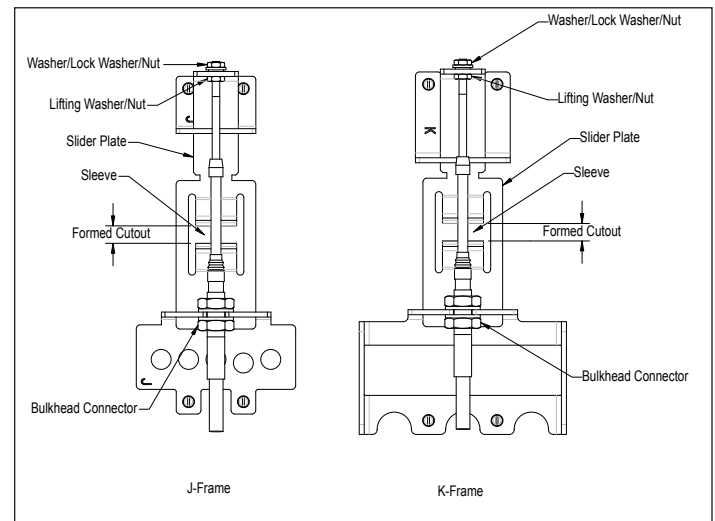

Figure 2. J- and K-Frame Actuator Mechanisms.
The High Performance Flex Shaft handle mechanism provides a means of externally operating the circuit breaker and can be applied to enclosures of varying heights and depths. The handle can be used with NEMA 1, 3R, 12, and 4/4X enclosure applications, depending on the accessory components selected. An operating handle, flexible shaft, and mechanism are required for standard application. Eight lengths of shafts are available for use with the wide range of depths of various enclosures (3 through 10 ft [0.91 through 3.05 m]). When selecting the length of the Flexible Shaft, ensure minimum bending radius of 4 in. (101.60 mm) is maintained to operate properly. The standard method of shipment includes the mechanism preset at the factory. If minor field adjustments are required, see Figure 2. For this publication, the term circuit breaker shall also include the molded case switch and Series C motor circuit protector (HMCP).
In the event a customer must disassemble the pre-assembled Flex Shaft handle mechanism, the procedure listed below must be followed before continuing with the "Installation" instructions (see Figure 2).
8. Check the operation of mechanism for "ON", "OFF", and "Reset". Check the reset position of the actuator mechanism, that the lifting nut and sleeve of shaft do not come in contact with each other (see Figure 2). If they do, move the bulkhead connectors accordingly. If the mechanism functions incorrectly, repeat the procedure or go to Adjustment Checklist.
For J- and K-Flexible Shaft Assembly, loosen the lifting washer/nut while tightening the washer/lock washer/nut. Two or three turns should be sufficient (see Figure 2).
Note: Check the reset position of the actuator mechanism, that the lifting nut and sleeve of shaft do not come into contact with each other (see Figure 2). If they do, move the bulkhead connectors accordingly.
For J- and K-Flexible Shaft Assembly, loosen the washer/lock washer/nut on the end of the shaft while tightening the lifting washer/nut until the breaker turns "ON" with positive action. Tighten both nuts and recheck for "ON", "OFF", and "Reset" positions (see Figure 2).
Note: After adjustment, be certain to have a minimum of one thread past the washer/lock washer/nut assembly (see Figure 2).